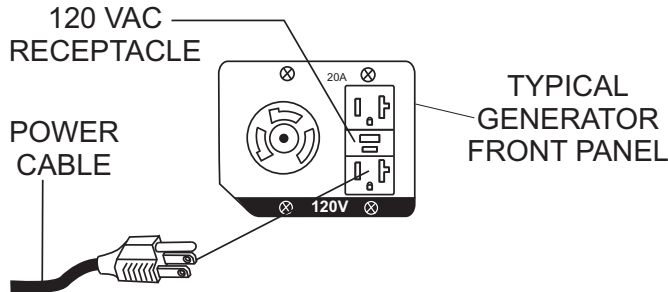

Figure 27. Connecting to Generator
1. If using a portable generator, plug the AC power cable to the 120 VAC receptacle on the generator used. See Figure 27.